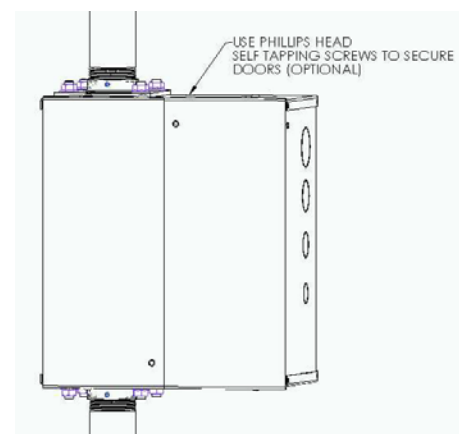

Figure 3. Secure Doors
4. Secure doors of job box, if desired, by installing two self-tapping screws in holes on top of doors (see Figure 3).